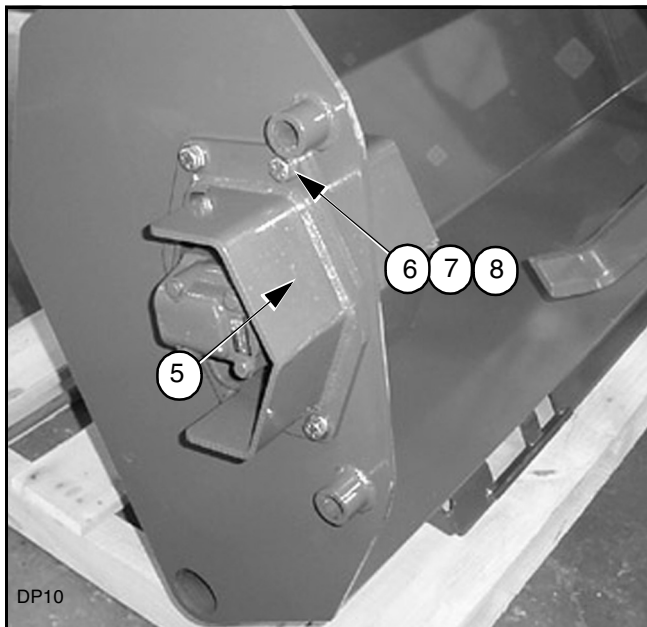

Figure 15.
Install motor housing (5) into one side of the chassis using four 1/2" x 1-1/2" bolts (6), eight 1/2" flat washers (7) and four 1/2" - 13 nuts (8) as shown in Figure 15.